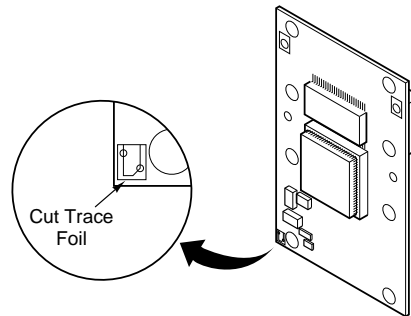

Figure-8 Setting the Address.
2. Locate the copper trace in the lower left corner of the electronic assembly ((Figure-8)).